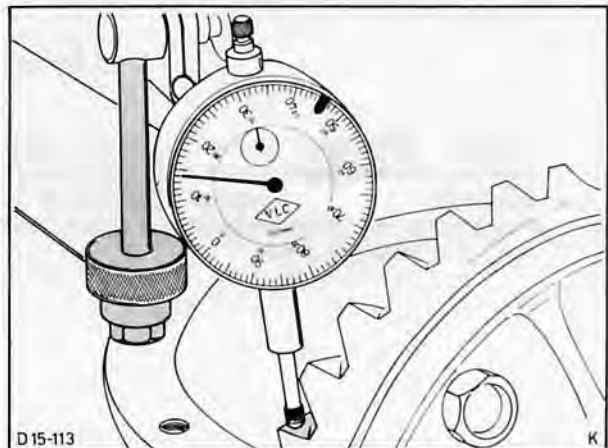

Fig. 88. Place dial indicator plunger at right angles on one of crown wheel teeth
40. Place dial indicator plunger at right angles on one of the crown wheel teeth, Fig. 88. Measure backlash at four points (turning crown wheel on in increments of two bolt-heads). Discrepancies in backlash must not exceed 0,05 mm. Introduce spindle in the other axle tube and screw in slowly until backlash of 0,01 mm is measured.